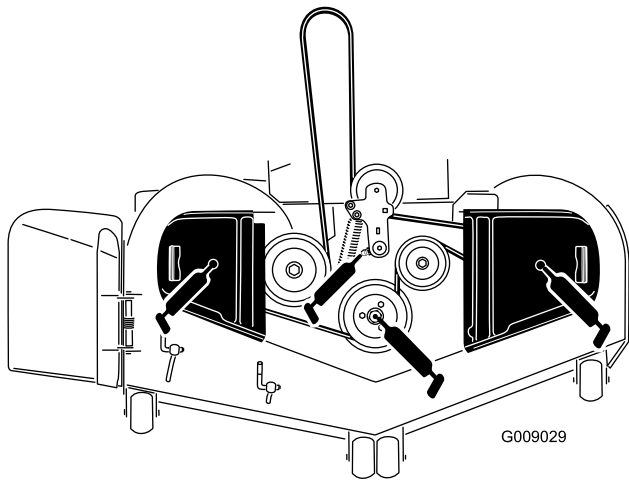

Figure 42
3. Grease the mower deck idler pulley pivot until grease come out the bottom (Figure 42).
4. Grease the 3 spindle bearings until grease comes out the lower seals (Figure 42).
5. Grease the drive belt idler arm (Figure 42).